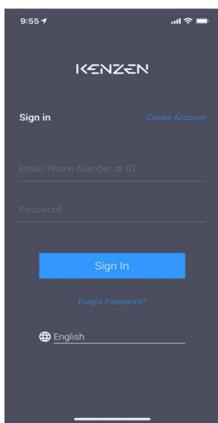

Figure 44: Sign-In
2. Select **Forgot Password** on the Sign In page (Figure 44).